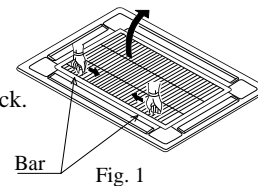

Fig. 1
(1) Remove air inlet grill from ornament panel *
① Push in the bar on inlet grill and lift it up. (Refer to Fig. 1)